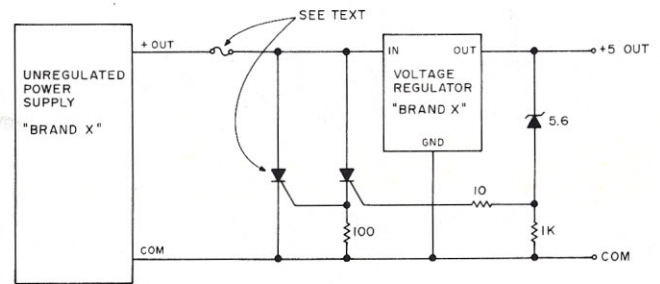

Fig. 4. Adding overvoltage protection to "Brand X."
**Procedure:** Refer to Fig. 4. The fuse is replaced with one equal to the current capacity of your power supply. A heavier current SCR is now